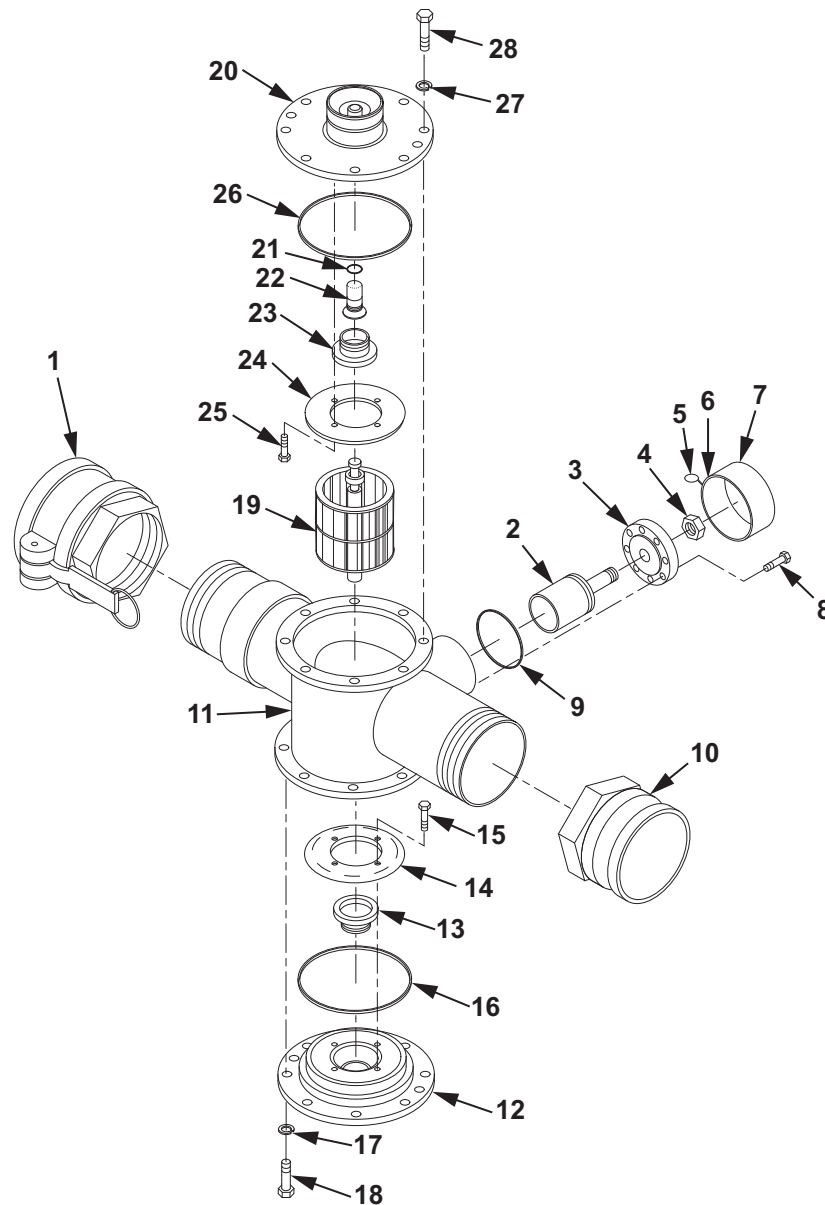

Figure 3. 4 In. Inline Flowmeter Assembly.
1. Apply sealing compound to threads of female cam and groove coupling (Figure 3, Item 1) and flowmeter (Figure 3, Item 11).
2. Using pipe wrench, install female cam and groove coupling (Figure 3, Item 1) on flowmeter (Figure 3, Item 11). Tighten female cam and groove coupling (Figure 3, Item 1).
3. Apply sealing compound to threads of male cam and groove coupling (Figure 3, Item 10) and flowmeter (Figure 3, Item 11).
4. Using pipe wrench, install male cam and groove coupling (Figure 3, Item 10) on flowmeter (Figure 3, Item 11). Tighten male cam and groove coupling (Figure 3, Item 10).
1. Install base plate (Figure 3, Item 3) and nut (Figure 3, Item 4) on calibration plug (Figure 3, Item 2). Tighten nut (Figure 3, Item 4).
2. Install calibration plug (Figure 3, Item 2) into flowmeter (Figure 3, Item 11).
- a. Apply a thin coat of petrolatum on new O-ring (Figure 3, Item 9) and install on calibration plug (Figure 3, item 2).
- b. Position calibration plug (Figure 3, Item 2) on flowmeter (Figure 3, Item 11).
- c. Install eight screws (Figure 3, Item 8) to secure calibration plug (Figure 3, Item 2) to flowmeter (Figure 3, item 11).
- d. Using torque wrench and adapter, torque eight screws (Figure 3, Item 8) using standard torque table (WP 0208).
- e. Position calibration plug cover (Figure 3, Item 7) on calibration plug (Figure 3, Item 2).
- f. Using wire twister pliers, install new wire (Figure 3, Item 10) and new lead seal (Figure 3, Item 5) to secure calibration plug cover (Figure 3, Item 7) to flowmeter (Figure 3, Item 11).